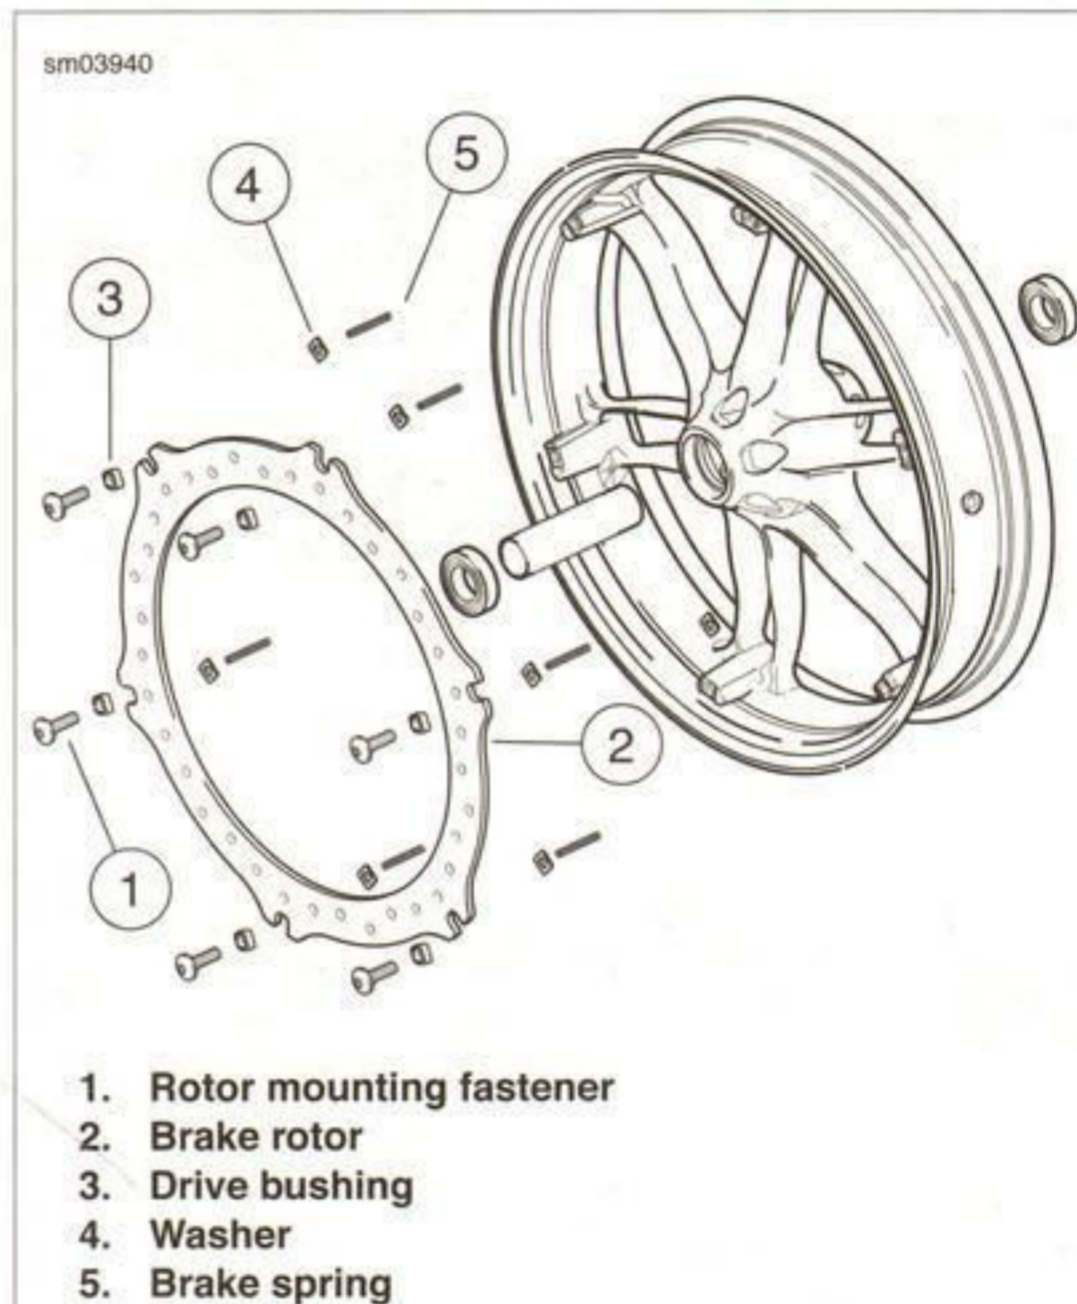

Figure 2-25. Front Wheel
1. See Figure 2-25. Remove and discard rotor mounting fasteners (1).
2. Remove and inspect brake rotor (2) for wear and warping. See 2.7 FRONT BRAKE.
3. Remove drive bushings (3) and discard.
4. Remove washers (4) and discard.
5. Remove front brake springs (5) and discard.